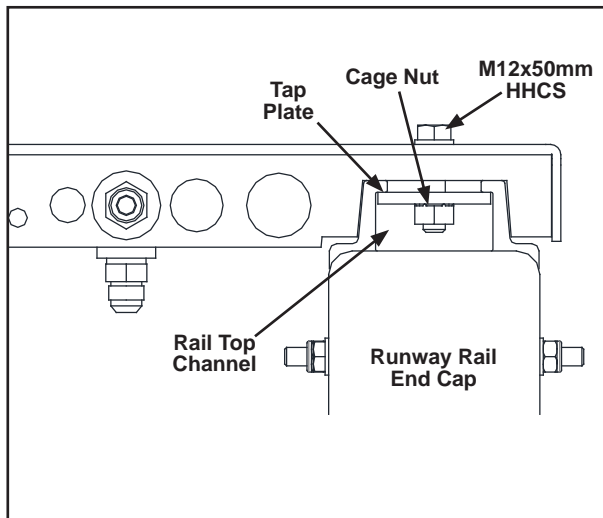
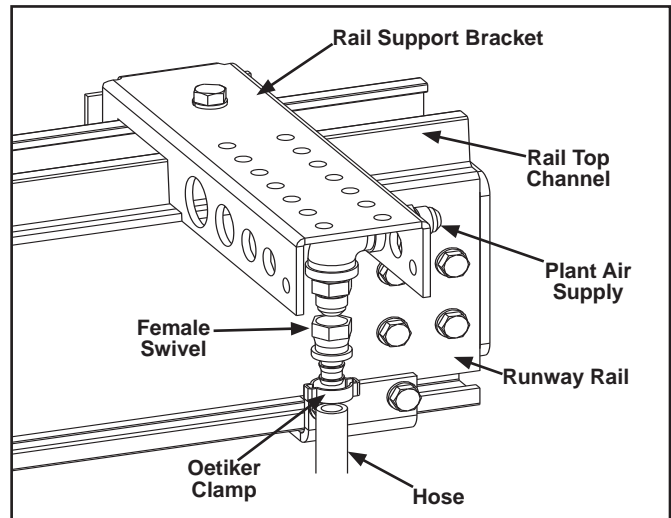

Figure 3-107
Figure 3-108
- Step 1. Start at runway rail end closest to plant air supply. Attach rail support bracket by loosening cage nut and sliding rail support bracket into rail top channel. See Figure 3-107 and Figure 3-108.